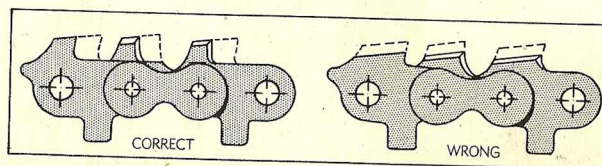

FIG. 8
2. The cutters and rakers are sharpened by filing from the front of the tooth. This gives longer chain life. Fig. 8 below shows correct way and wrong way to file chain.